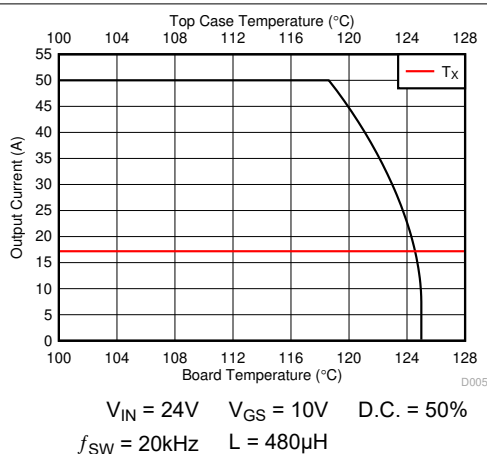

图 4-3. Typical Safe Operating Area
The SOA curve in 图 4-3 provide guidance on the temperature boundaries within an operating system by incorporating the thermal resistance and system power loss. This curve outlines the board and case temperatures required for a given load current. The area under the curve dictates the safe operating area. This curve is based on measurements made on a PCB design with dimensions of 4in (W) × 3.5in (L) × 0.062in (H) and 6 copper layers of 2oz copper thickness.